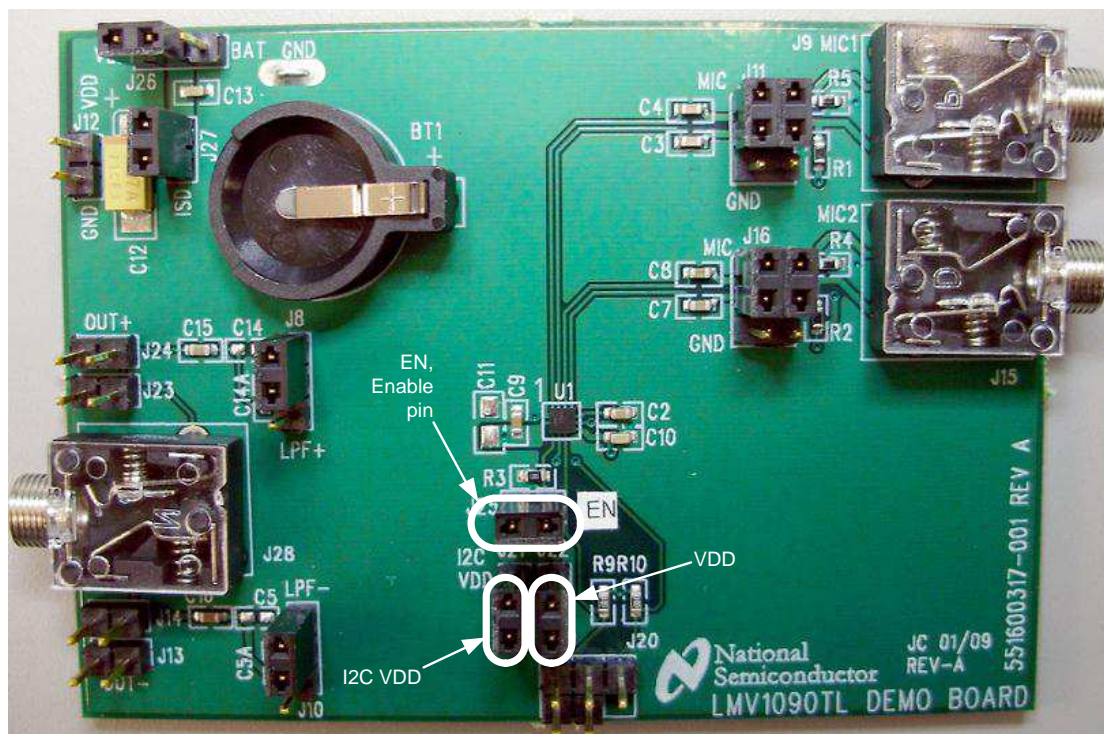

Figure 5. I²C Power Supply
- Via the I²C interface header J20. See Figure 5. This is the default configuration of the LMV1090TL demonstration board when received by customer. Using this configuration and a mini USB board eliminates the need for a separate power supply for evaluation. Supplying the demo board is possible by generating jumpers on headers J21 and J22.
The enable pin must be logic high for operating the on board LMV1090. This is done by placing a jumper on header J25 (see Figure 5).